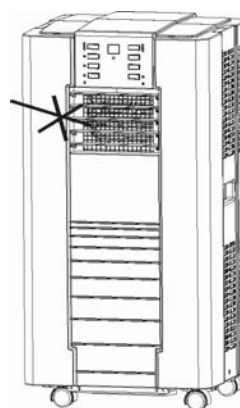

FIG. 2
- DO NOT PLACE OBJECTS ON THE UNIT OR RESTRICT AIR INLET/OUTLET (FIG. 2).